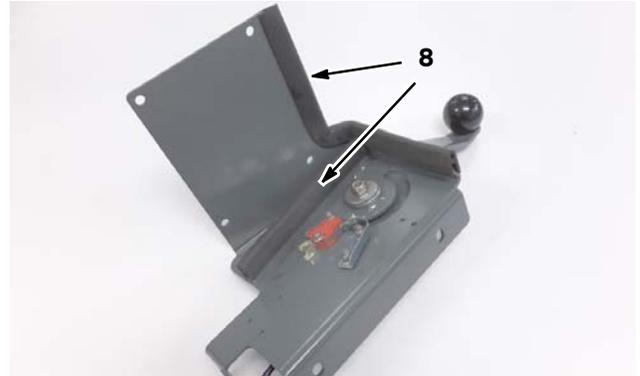

FIG. 5
5. Install the two foam edge seals (8) onto the squeegee lift bracket as shown. (FIG. 5)